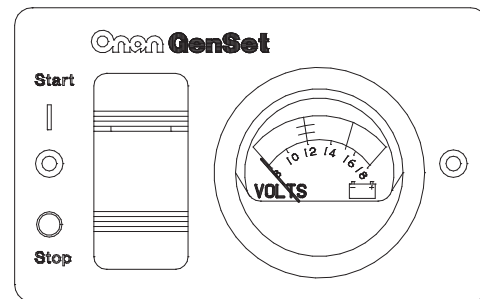

FIGURE 12. REMOTE CONTROL / DC VOLTMETER
- Remote start/stop switch with indicator lamp and DC voltmeter (Figure 12).